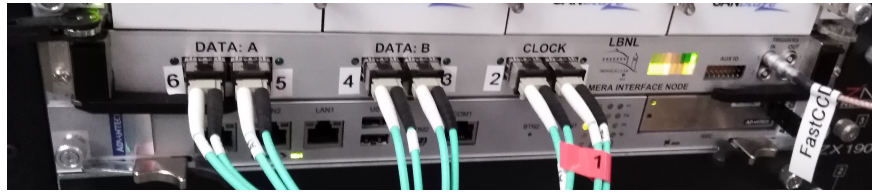

Fig. 2.2: The Camera Interface Node (CIN) module is the one where cyan fiber optics cables are connected.
- the Camera Interface Node (see Fig. 2.2 and Fig. 2.3)
The Camera Interface Node (CIN) is an ATCA module connected to the camera head via 6 fiber optics channels (see Fig. 2.2 and Fig. 2.3). It provides the control signals for the camera, and reads out and de-scrambles the acquired frames.